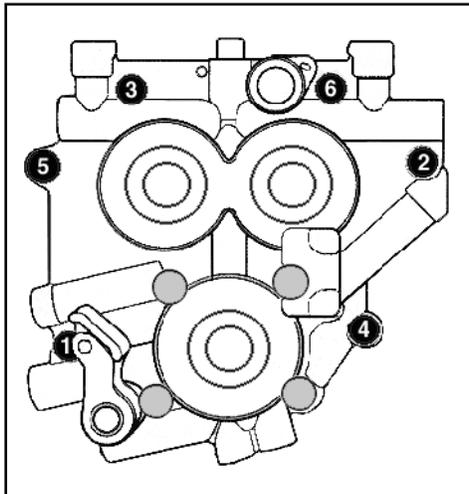

Figure 2
- L. Following sequence shown, alternately loosen and remove cam support plate bolts. See Figure 2.
- H. Loosely install support plate screws with a drop of Loctite® threadlock 242 or 243 (blue). Alternately tighten screws to 95 in-lbs. torque following sequence shown. See Figure 2.
Support plate screws that pass through alignment dowels (See positions 1 & 2 in Figure 2) can be easily stripped when applying maximum 120 in-lbs. torque as recommended by Harley-Davidson®.